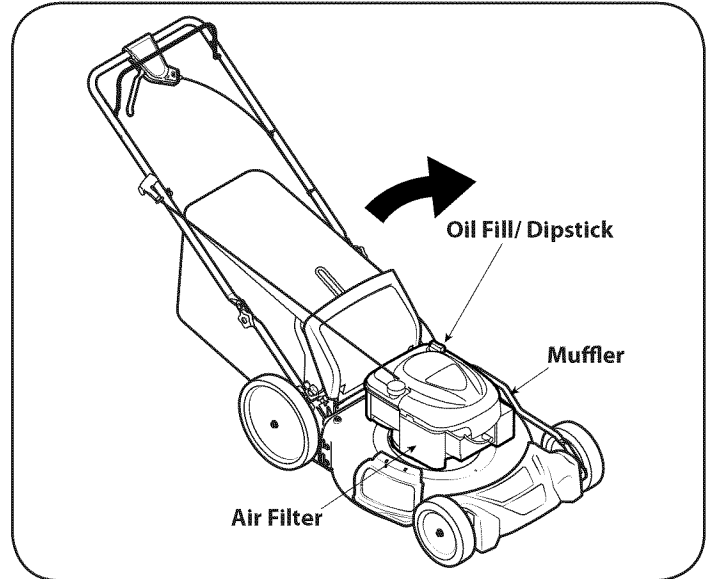

Figure 18
3. Remove the oil fill dipstick and drain the oil into the container by tipping the engine toward the oil filler neck. See Figure 18.